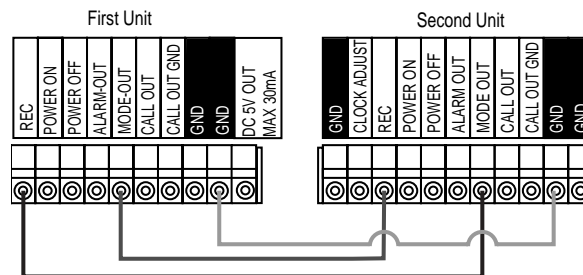

**Figure 10.** Schematics for Input and Output Terminals
- Optional. Connect equipment to the CLOCK ADJ, REC, MODE OUT, and CALL OUT terminals. Refer to Figure 10 for schematics of the input/output terminals.